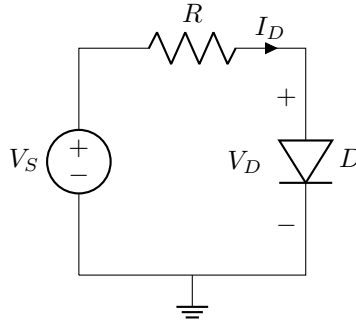

Figure 1: Forward-bias pn junction I-V characteristic measurement circuit.
In this portion of the experiment, you will measure the forward-bias current-voltage characteristics of a silicon diode. Begin by constructing the circuit shown in Figure 1 on your breadboard using the small-signal silicon diode and the 1 k Ω resistor. Ensure that the diode is oriented correctly with the anode connected toward the positive supply terminal and the cathode toward ground. Connect one DMM across the diode terminals to measure the diode voltage V_D directly. To measure the current through the diode I_D , you have two options: either connect the second DMM in series with the circuit (being careful to observe the current measurement limits of your meter), or measure the voltage across the resistor and calculate the current using Ohm's law ($I_D = V_R/R$). The second method is often preferred as it avoids potential issues with meter burden voltage.
2. For the circuit in Figure 1, assume $V_S = 5$ V, $R = 1$ k Ω , and the diode forward voltage is 0.7 V when conducting. Calculate (a) the voltage across the resistor, (b) the current through the diode, and (c) the power dissipated by the diode. Show all calculations.